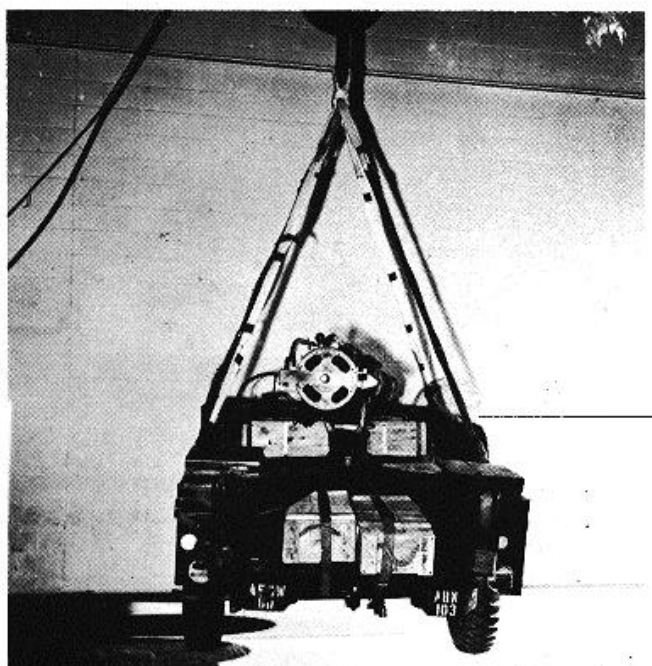
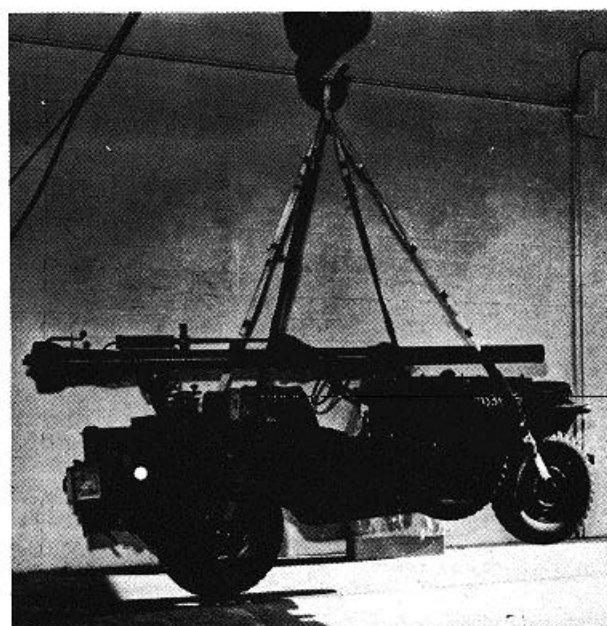

Figure 1. Rear view of the M151A1C 1/4-ton truck with mounted 106-mm recoilless rifle. Note tape at hitches.
Figure 2. Side view of the M151A1C 1/4-ton truck with mounted 106-mm recoilless rifle. Note padding protecting the rifle projections
- (1) Lower and lock windshield.
- (2) Position and strap down 3 boxes of ammunition (fig. 1).
- (3) Secure rifle on mount.
- (4) Pad and tape rifle barrel projections (fig. 2).
- (5) Secure ramrod sections for rifle barrel across seats with 550-pound nylon cord.
- (6) Inspect slings for serviceability.
- (7) Attach small clevis assembly to the hub of each wheel.